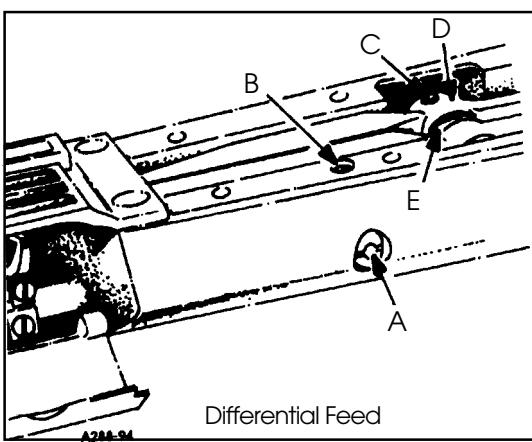
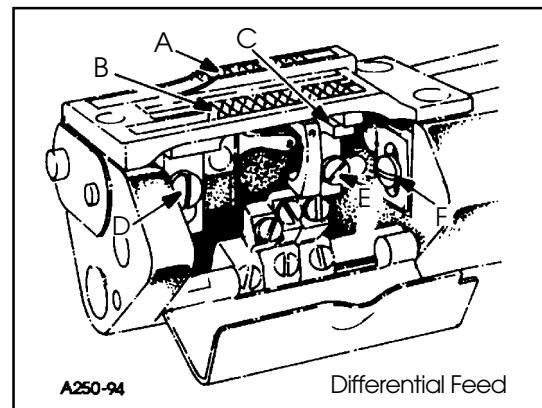

FIG. 10A
FIG. 11A
Before assembling the main and differential feed dogs, set the feed bar eccentric pin (A, Fig. 10A) located in the left side near center of cylinder, so that the slot in the head is in a horizontal position for the 35800DLU, DNU, and DZ style machines and turned counter clockwise to an approximate  $45^{\circ}$  for the 35800DWL style of machine. The pin can be used to slightly tilt both feed dogs if necessary. The feed bar pin is retained in position by set screw (B). Assemble differential feed dog (A, Fig. 11A), main feed dog (B) and throat plate. Both the main and differential feed dogs can be individually adjusted to height. Main feed dog (B) at its highest position, should be set to project above the throat plate, the depth of its teeth. If adjustment is necessary loosen screw (D) and move feed dog (B) up or down to attain correct setting. Feed dog support (C) should support front of feed dog.
NOTE: If eccentric pin (A, Fig. 10A) is used to tilt the feed dogs, make sure that the looper does not interfere with the rear needle guard and that the needle guard does not pinch the needle loops on the back side of the needles.
If adjustment is necessary loosen screw (E, Fig. 11A) in feed dog support (C) and move as required. Retighten screw (E). The differential feed dog (A) may then be leveled with main feed dog (B). If adjustment is necessary loosen screw (F) and move feed dog up or down as required. Retighten screw (F).
**NOTE:** Should the main feed dog require repositioning due to contact with the throat plate in its forward or rearward travel, loosen set screw (C, Fig. 10A) in main feed bar driving link (D), rotate main feed bar eccentric driving stud (E) as required. Driving stud (E) has a thin hexagon head with cutouts on two of the flats allowing movement by tapping with a sharp pointed tool, when wrench 21388AZ is not available. Whenever the main feed bar eccentric driving stud position has been changed, recheck rear needle guard setting, adjustment may be required. Retighten set screw (C). Position main feed dog support (C, Fig. 11A) flush against bottom of main feed dog (B), tighten support screw (E) securely.